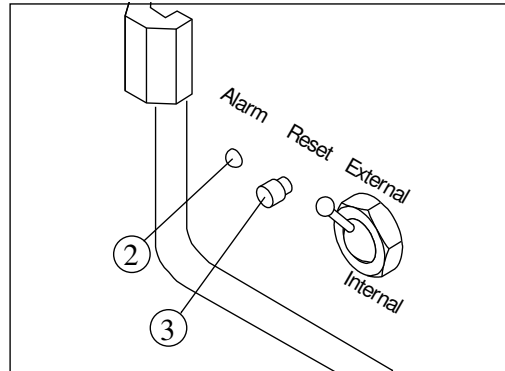

Figure 5.3.: TCU interlock.
1. set the switch (5) to **external**
The built-in TCU interlock is activated when a fault occurs on the TCU controller, e.g. prompt temperature rise. The interlock is by default an NC (Normally Close) relay contact, and may be reset by pressing the reset button (3) shown in figure 5.3.
4. Press the RESET button (3) on the TCU rear panel (see figure 5.3).